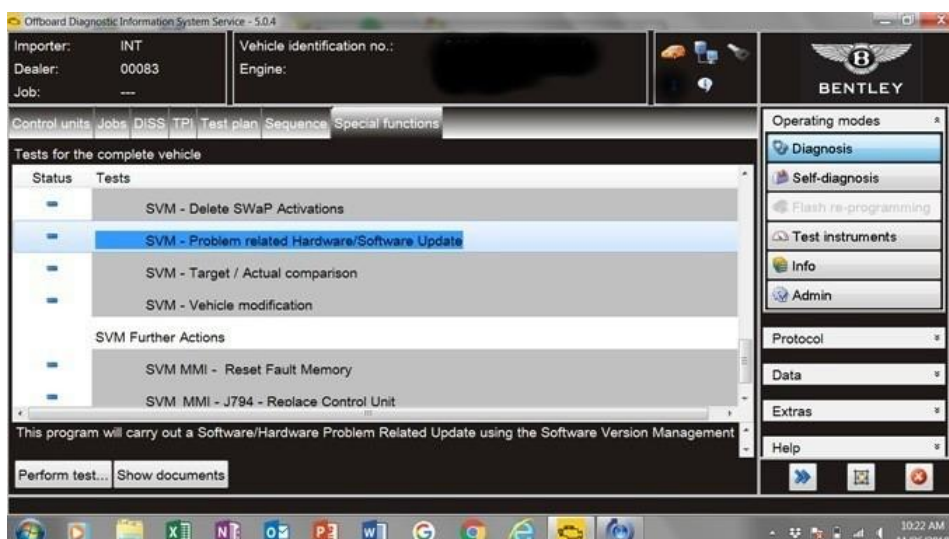

Figure 3
1. Select and run Guided fault finding. Within the Special functions tab select SVM – Problem related Hardware/Software update then select Perform test (Figure 3).